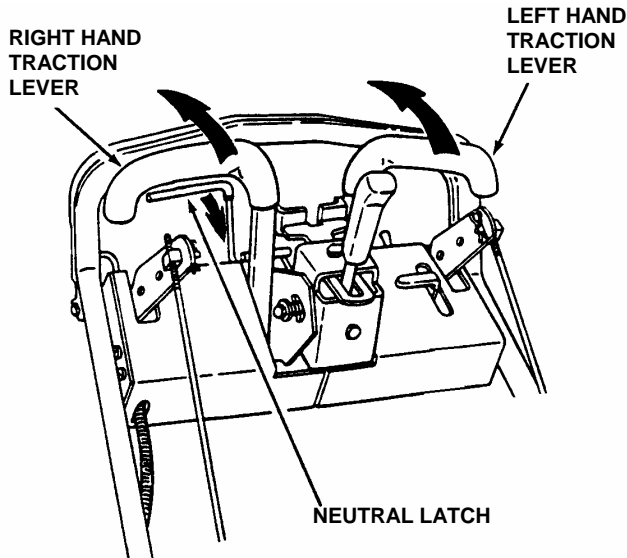

FIGURE 3.2
1. Squeeze both Traction Controls simultaneously towards handle bar until both are in Neutral. Manually engage the Neutral Latch. See Figure 3.2.